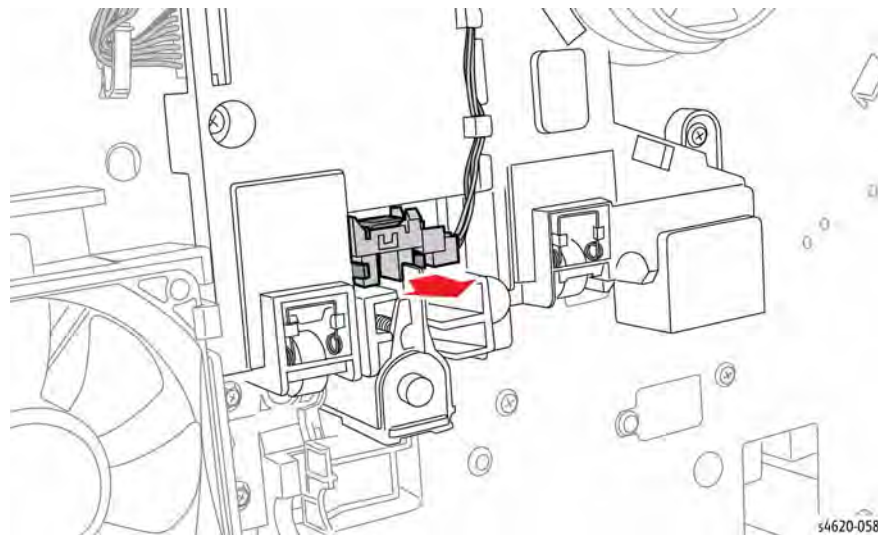

Figure 1 Remove the Waste Toner Cartridge Detect Sensor
5. Disconnect P/J30 to remove the sensor, Figure 1.